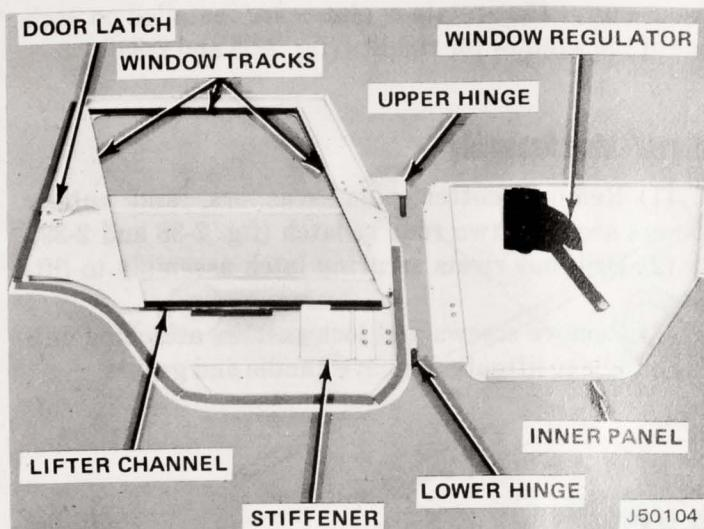

Fig. 2-37 Cab Door with Inner Panel Removal
(1) Drill out rivets securing inner panel to door (fig. 2-37).
(2) Slide panel forward to disengage window regulator arm from lifter channel and remove panel.